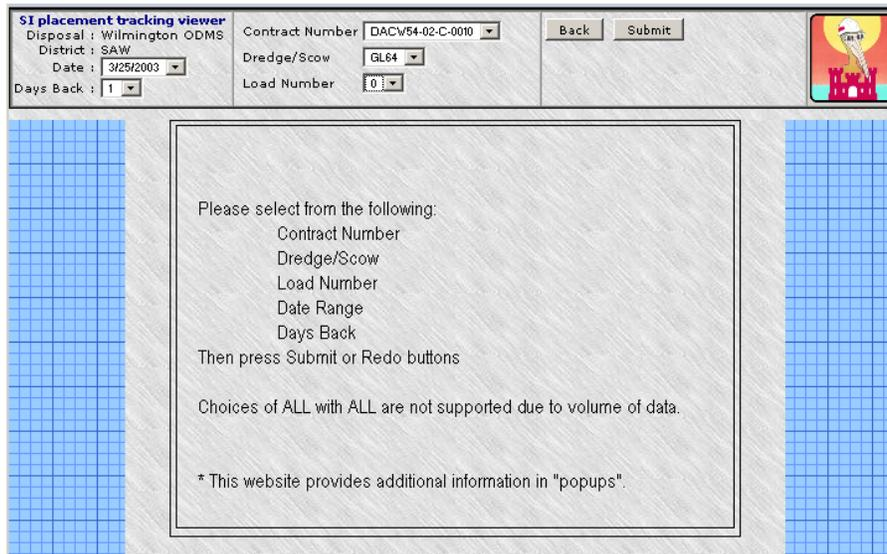

Figure 4.3 Tracking Viewer Screen
3. Select the disposal site from the pull-down menu and click *continue*. The tracking viewer screen will appear as shown in Figure 4.3.